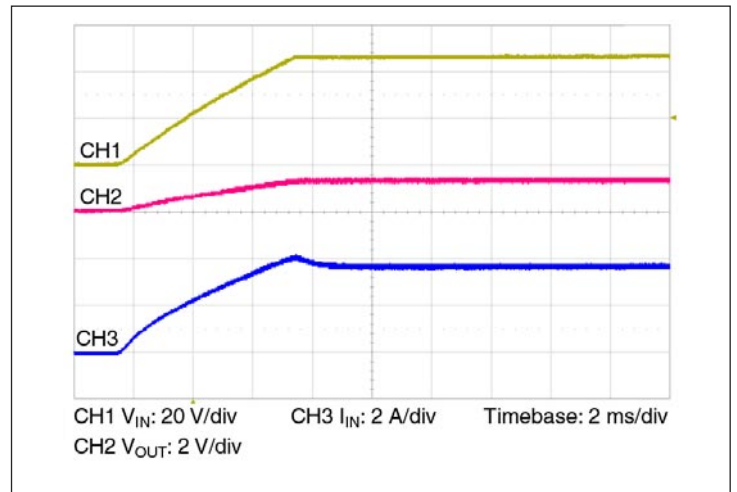

Figure 10 — Start up from application of VIN; VC pre-applied COUT = 64400 μF
- Normal operation (VC applied prior to VIN): In this case the controller is active prior to ramping the input. When the input voltage is applied, the VTM module output voltage will track the input (See Figure 10). The inrush current is determined by the input voltage rate of rise and output capacitance. If the VC voltage is removed prior to the input reaching 26 V, the VTM may shut down.